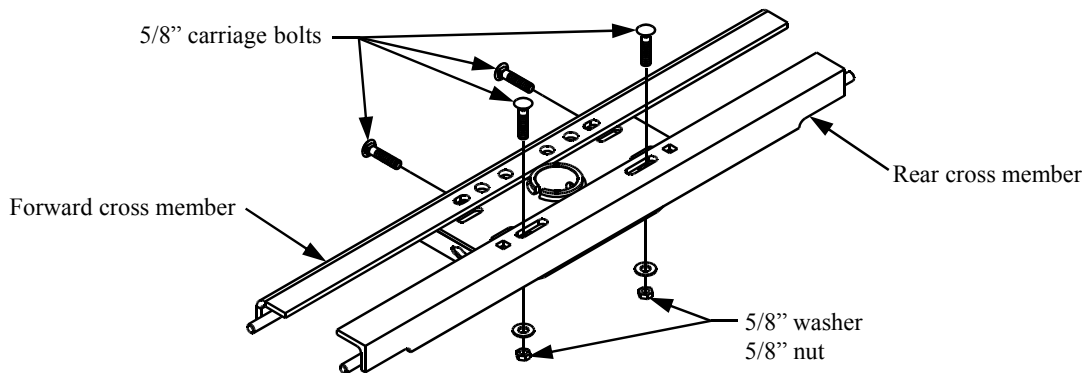

Figure 5
7. Slide the hitch cross members half way through the notches in the sheet metal flange and place 5/8 carriage bolts from the Hide-A-Goose hitch fastener kit into the long slots on the rearward cross member from underneath the vehicle. Slide the hitch cross members above both vehicle frame rails and align hitch cross members as shown in Figure 6. **Note: if the truck bed has been loosened as in step 6a, the hitch can be loosely preassembled to the cross members, and the hitch and cross members can be slid between the truck bed flange and the vehicle frame (see figure 5). The truck bed will need to be propped up on the driver's side about 3-1/2" to slide the hitch and cross members into position.**